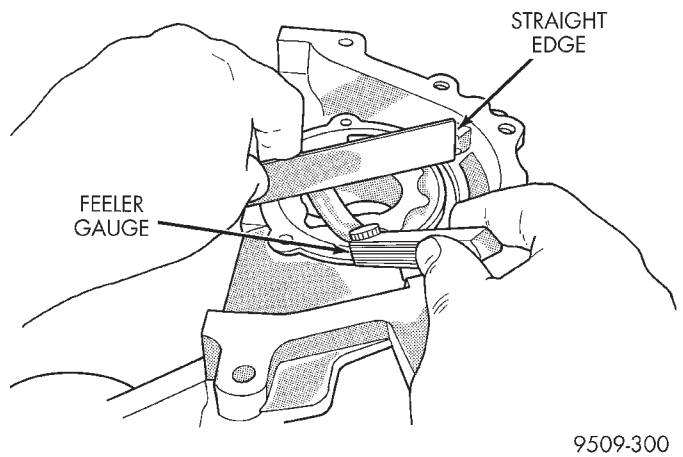

Fig. 98 Measuring Clearance Over Rotors
(7) Place a straightedge across the face of the pump housing, between bolt holes. If a feeler gauge of .102 mm (.004 inch) or more can be inserted between rotors and the straightedge, replace pump assembly (Fig. 98), **ONLY** if rotors are in specs.
(8) Inspect oil pressure relief valve plunger for scoring and free operation in its bore. Small marks may be removed with 400 grit wet or dry sandpaper.
(9) The relief valve spring has a free length of approximately 60.7 mm (2.39 inches) it should test between 18 and 19 pounds when compressed to 40.5 mm (1.60 inches). Replace spring that fails to meet specifications.